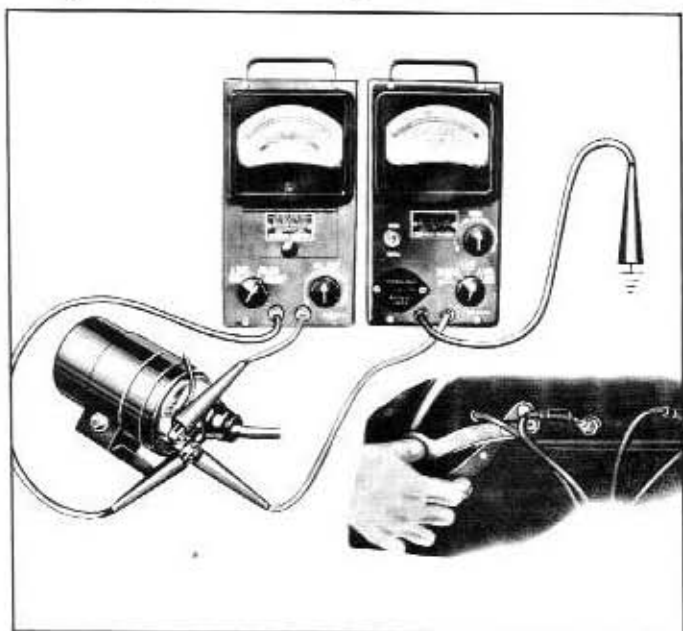

Fig. 10A-51—Ignition Coil and Secondary Insulation Tests—(60C-7708)
3. Connect leads of Tach-Dwell unit as shown in figure 10A-51. Connect black lead to a good engine ground, red lead to the ignition coil DIST. terminal.
4. Connect the leads of the Ignition Test unit as shown in figure 10A-51. Connect black lead to ignition coil DIST. terminal, red lead to ignition coil BAT. terminal.